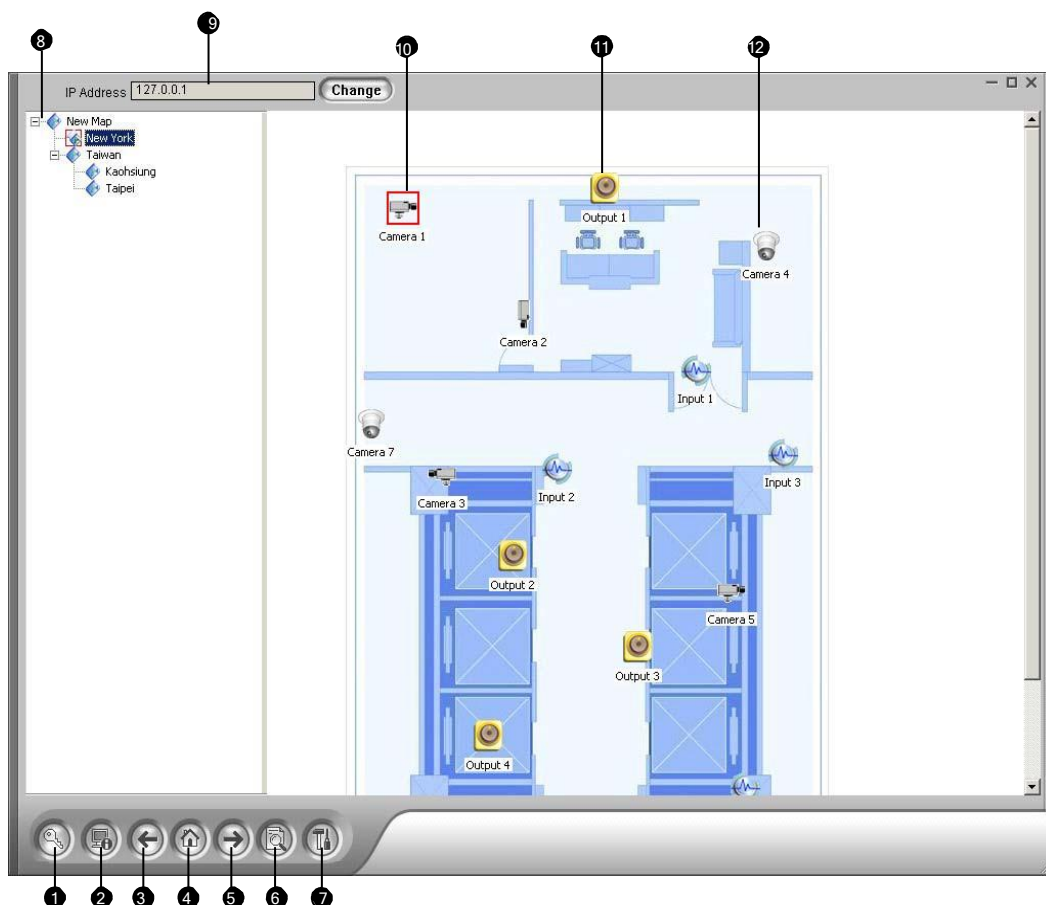

Figure 9-10 The Remote E-Map Window
When the client PC connects to the WebCam server, all the E-Maps saved in the local server will be downloaded to the client PC, with the E-Map files of 500 hosts at most. The E-Maps created for remote hosts can only function through WebCam after you log in these hosts. You can login 500 hosts at a time. Click the **Login** button (No. 1, Figure 9-10) to display the following Login window.
Click the **Configure** button (No. 7, Figure 9-10) to display the following dialog box:
The Host Information window lists the triggered events of cameras and I/O devices. Click the **Host Information** button (No. 2, Figure 9-10) to open it.
On the Remote E-Map window, the **ViewLog** button (No.6, Figure 9-10) is designed for the Remote ViewLog function, giving you remote access to the recorded files of DVR and playing back video by the player ViewLog. For details on starting the Remote ViewLog service, refer to *Remote ViewLog* in Chapter 8.
8. Click the **Login** button (No.1, Figure 9-10) to select the desired host(s) to access videos and I/O devices.